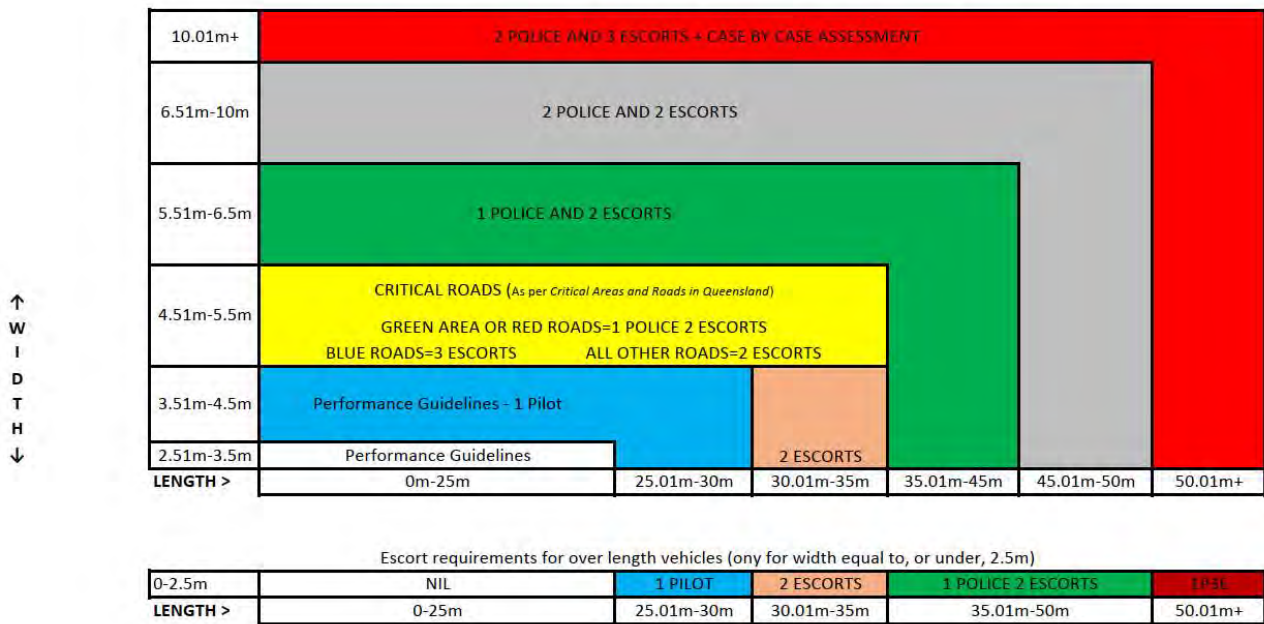
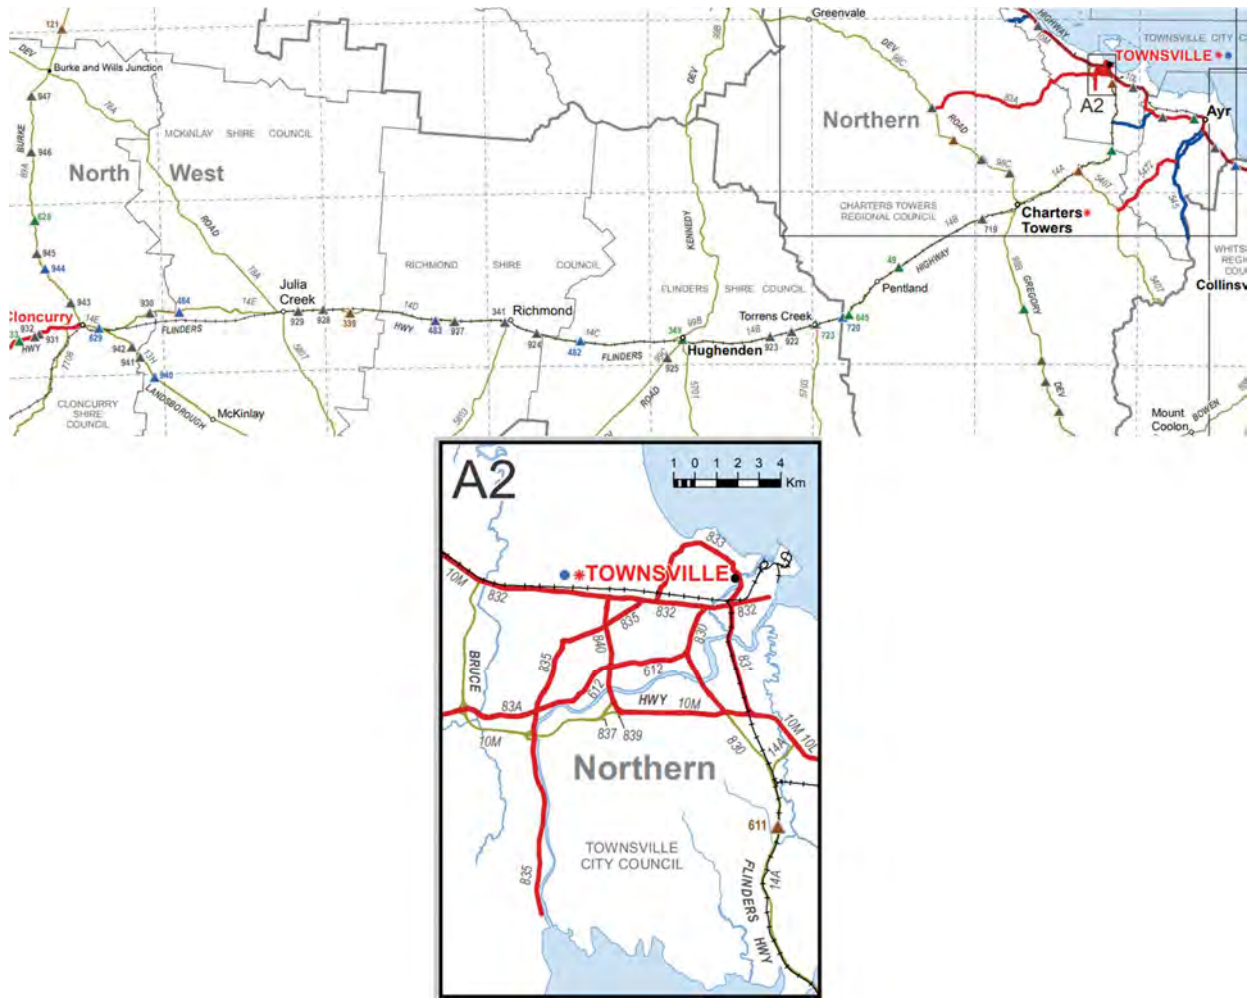

Figure 1: QPS Escort Requirements Matrix
Figure 2: QPS Critical Roads Map - Northern/Northwest & Townsville Area Inset
- Pilot, Escort, and Police Escort requirements as per QPS Escort requirements matrix (shown in Figure 1 & Figure 2)